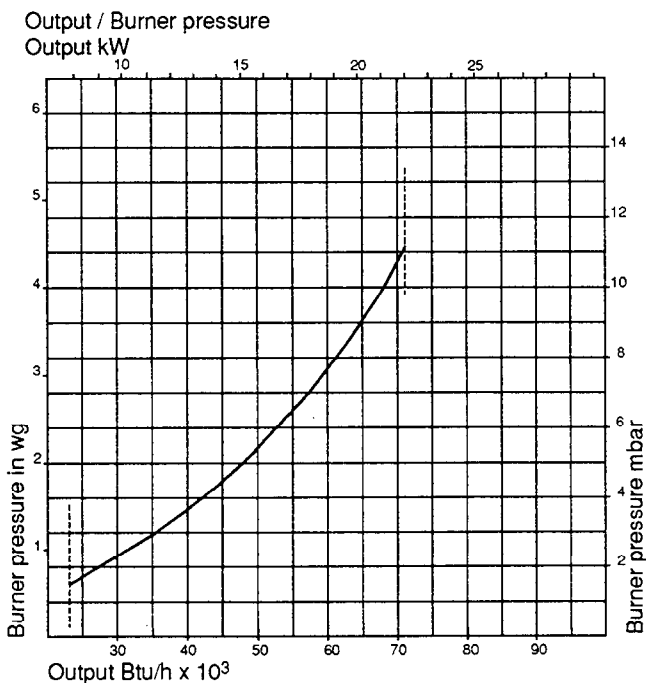

Fig. 37
- 2) Remove the pressure test point screw - (B) and connect a suitable pressure gauge.
- 3) Remove the hexagonal cap from gas rate adjuster exposing the adjusting screw (C).
- 5) Adjust. Setting pressures are given in graph figs. 37 and 38. The pressure will be reduced by clockwise movement of screw, increased by anticlockwise movement. Now select hot water only, adjust hot water regulator, see fig. 4 (20), to minimum and open the largest volume draw-off tap. The gas pressure should now be the maximum as indicated in Technical Data.